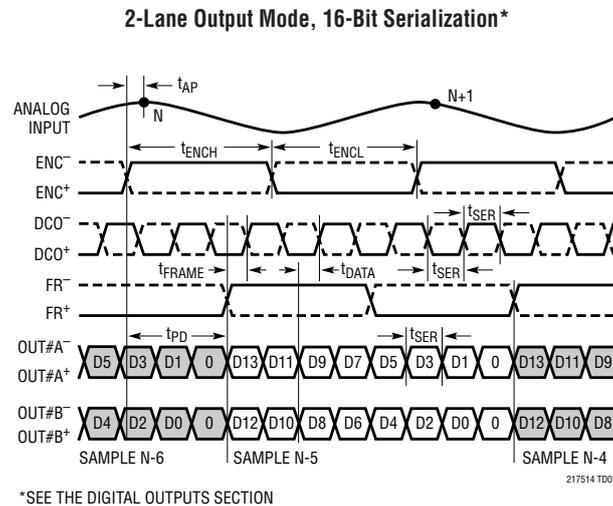

Figure 4.2: LTC2174 data output mode waveforms.
There is two 800Mb/s lanes per ADC channel. The eight data lanes and the frame rate (FR) lane are fed to a de-serialiser in the FPGA. The frame rate signal is used to align the de-serialiser to data words. The four channel data (16-bit) are concatenated together to form a 64-bit vector. As show in Figure 4.2, the two LSB bits of a data word are set to zero.